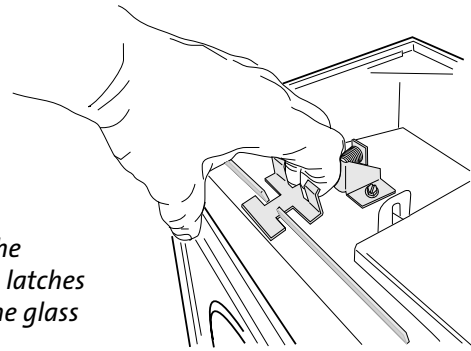

Figure 39. Disengage the compression latches to remove the glass frame.
2. **Remove the Glass Frame.** Disengage the two compression latches located at the top of the firebox and lift the glass frame up and off of the stove. See fig. 39.